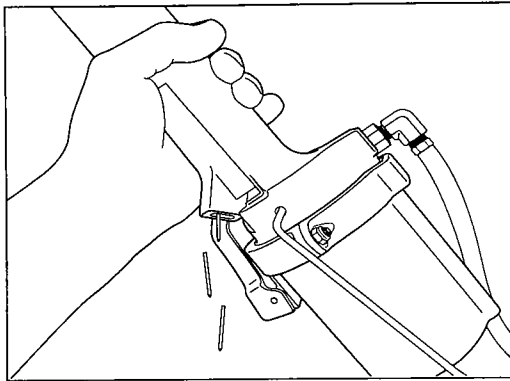

Figure 17
3. Tilt the slide and tool downward to remove any mandrels that may still be in the mandrel path. (See Figure 17)